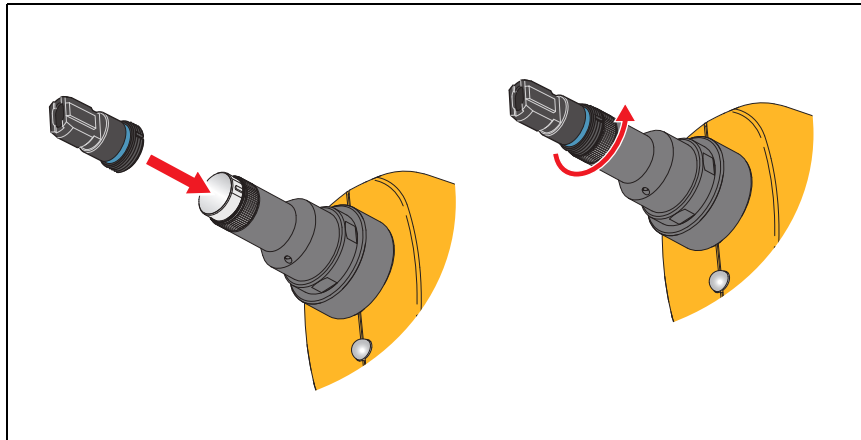

Figure 43. MPO Tip Attachment
- 1 Align the slot in the tip with the alignment pin on the end of the Probe. See Figure 43.